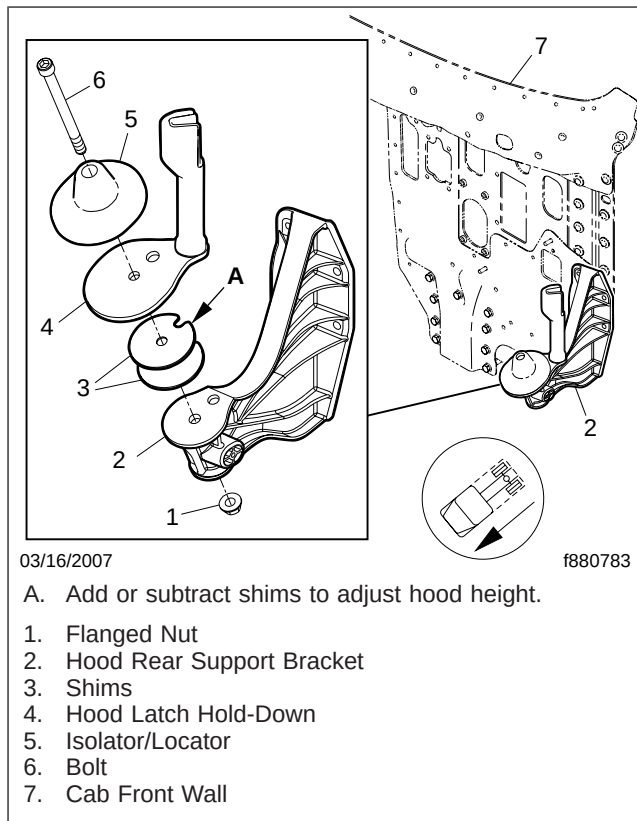

Fig. 5, Hood Rear Support
3. If the hood needs to be vertically adjusted, add or subtract shims at the hood rear support; see **Fig. 5**.